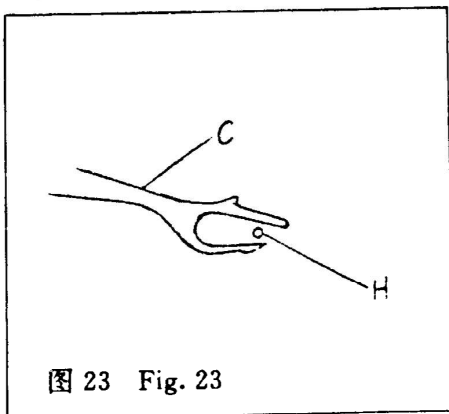

图 23 Fig. 23
② 作上述调整后, 必须检查钩线叉在左端(图 23)时, 机针“H”的针尖应在钩线叉“C”的叉口中间或机针稍低于中间位置通过。如有相撞, 必须作相应调整, 达到左右兼顾。
(3) Adjustment of the position of the thread hook
② When the thread hook locates at the left end (Fig. 23) after completing the said adjustment, the needle point "H" shall be in the middle of the prong of the thread hook "C". The needle can also pass the thread hook at a location lower a bit than the middle. Micro-adjustment can be made if the needle point comes into contact with the thread hook.
(4) 钩线叉的前后位置